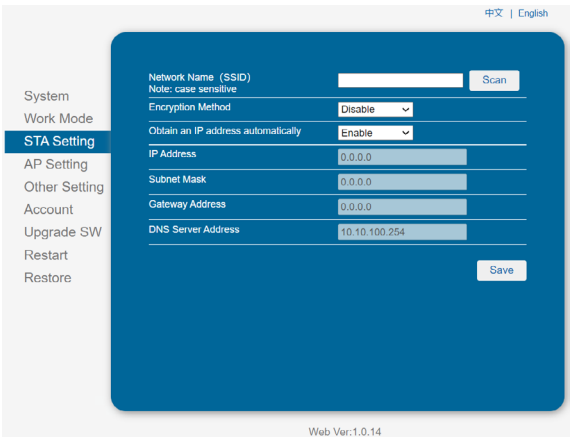

Fig. 44. WiFi setup interface.
5. Select the desired WiFi and click on "OK". It only supports 2.412GHz-2.484GHz routers. See Fig. 44.